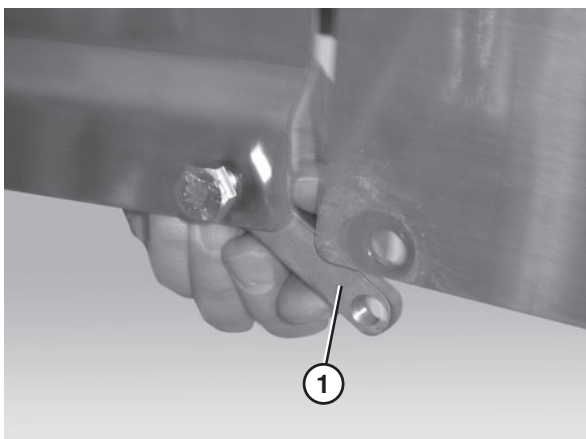

Figure 9
- Attach the flat connectors (**Figure 9, item 1**), if applicable, to the inside of the frame sections.